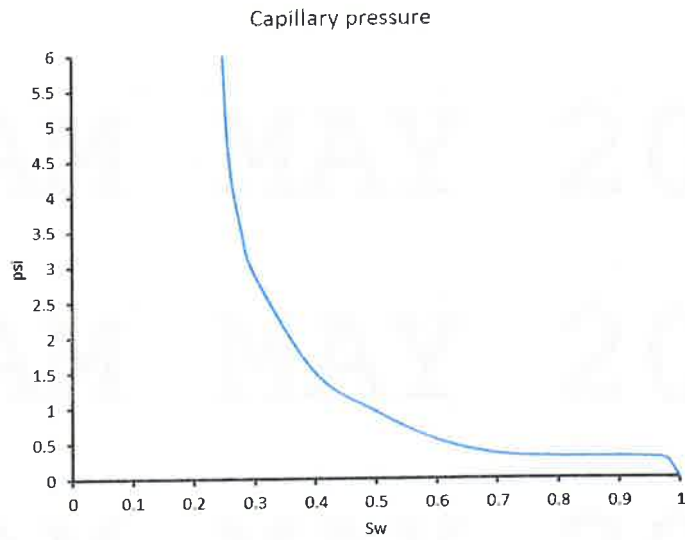

FIGURE Q4b: capillary pressure curve
- b. Refer to **FIGURE Q4b**, connate water saturation is 25% in all blocks.